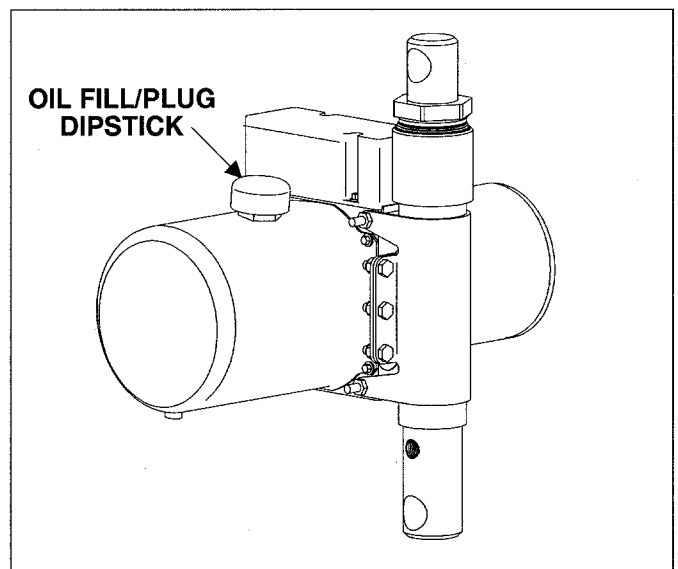

Figure 15
With the snowplow assembly mounted to the vehicle and the lift channel pushed all the way down, remove the reservoir fill plug on top of the reservoir. (See Figure 15.) Fill the reservoir through the reservoir fill hole until the fluid reaches the full mark on the fill plug dipstick. Replace plug. For fluid recommendations, see step 3 of Annual Fluid Change.
1. Remove the drain plug located at the bottom of the reservoir. See Figure 15.